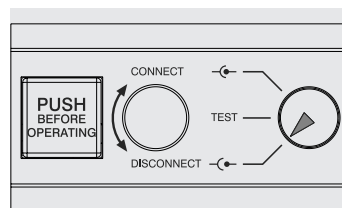

Figure 52
- circuit breaker in DISCONNECT position (see Figure 52)